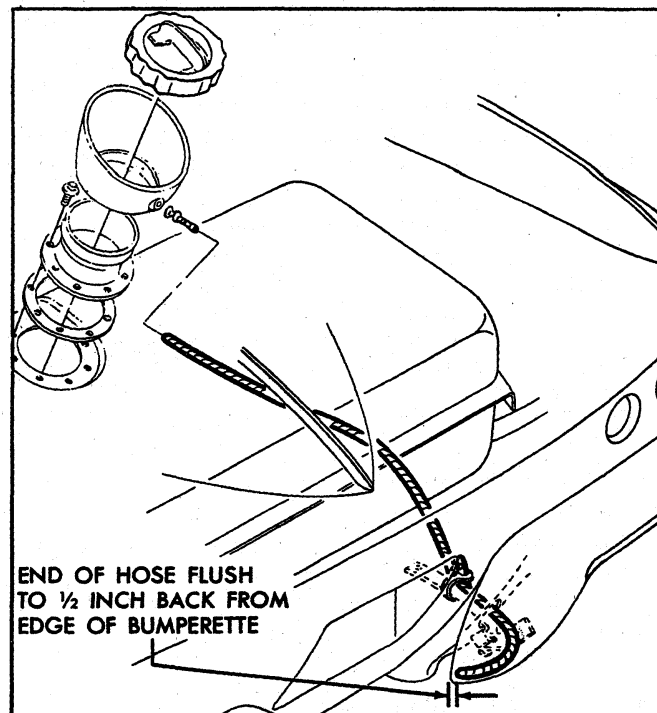

Fig. 24—Gas Tank Filler Neck Vent Hose
9. Remove gas cap, filler neck boot from the top of tank and disconnect drain line (fig. 24).